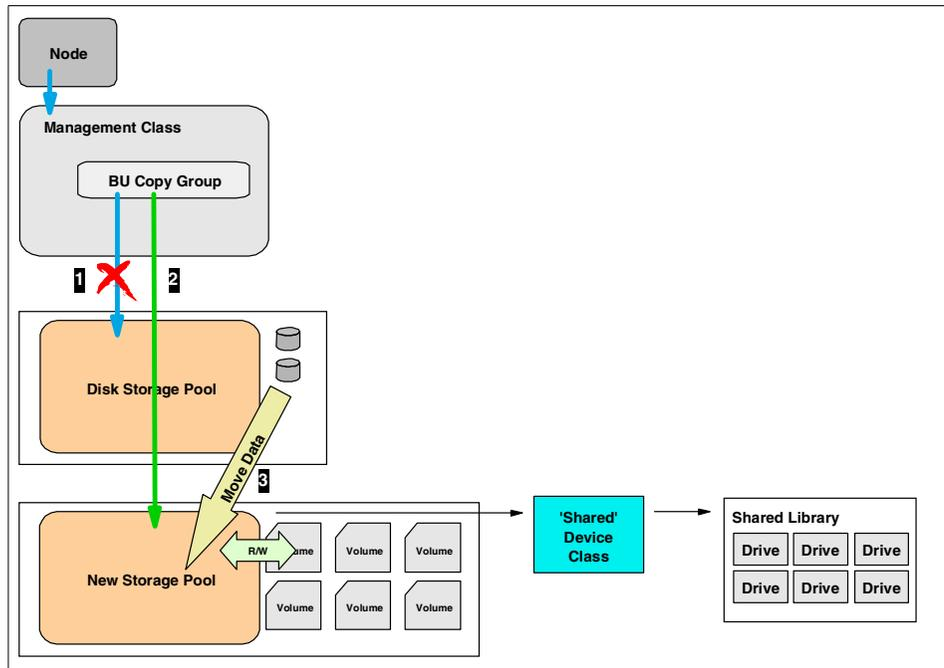

Figure 88. Redefining and moving data for TDP clients
2. The next step is to move the data residing on the TDP client’s original disk storage pools to the new tape pool. Since the configuration that is going to be created only supports tape storage pools, we must be certain that all TDP client data resides on this tape storage pool. If you were using a disk pool in the original setup, you must now move the data from that disk pool to the tape storage pool. This can be done using the `move data` command (3). You could also use a construct that sets the new tape storage pool as next storage pool for the disk pool, and migrate the data. However, since disk storage pools normally consist of a small number of volumes, moving the data on command might be faster. Figure 88 shows the results of steps 1 and 2.